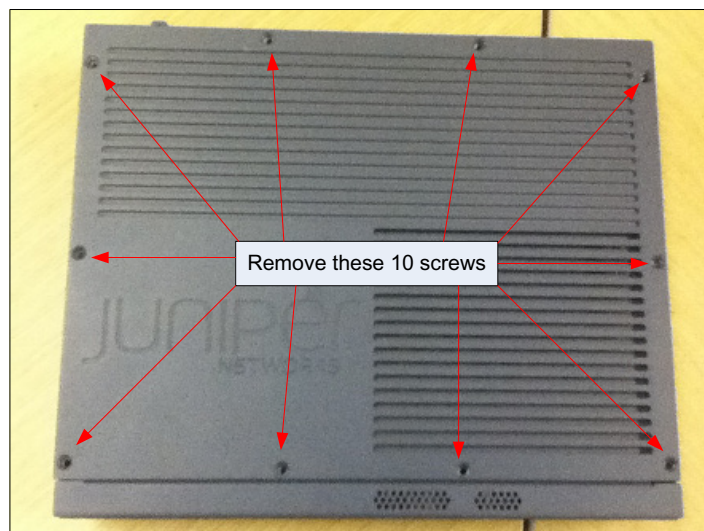

Figure 3-7: EX2200-C Top side screws
1. Remove the ten screws from the top of the system (Figure 3-7)